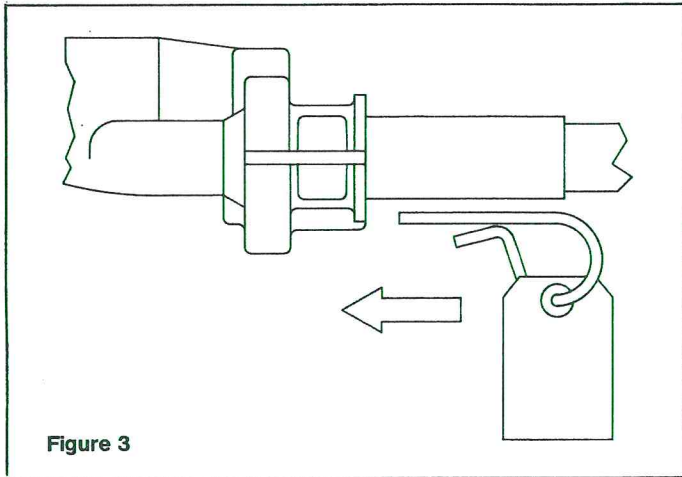

Figure 3
STEP 3. Replace pin as shown in Figure 3, making sure that it is fully seated. **DO NOT REMOVE TAG FROM PIN.**